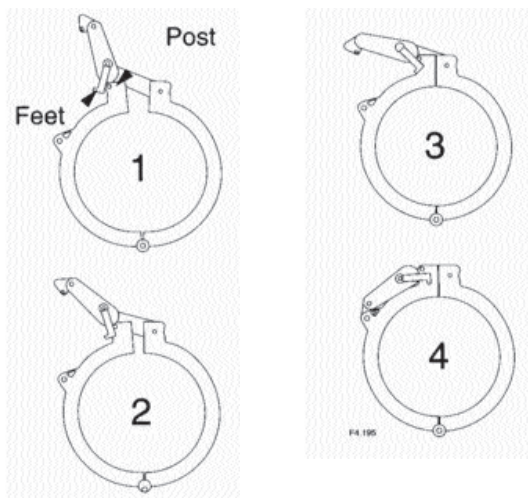

Fig 22
4. Install clamp around dome/base interface. Use the feet of the clamp handle to close the gap in the clamp (Fig. 22).